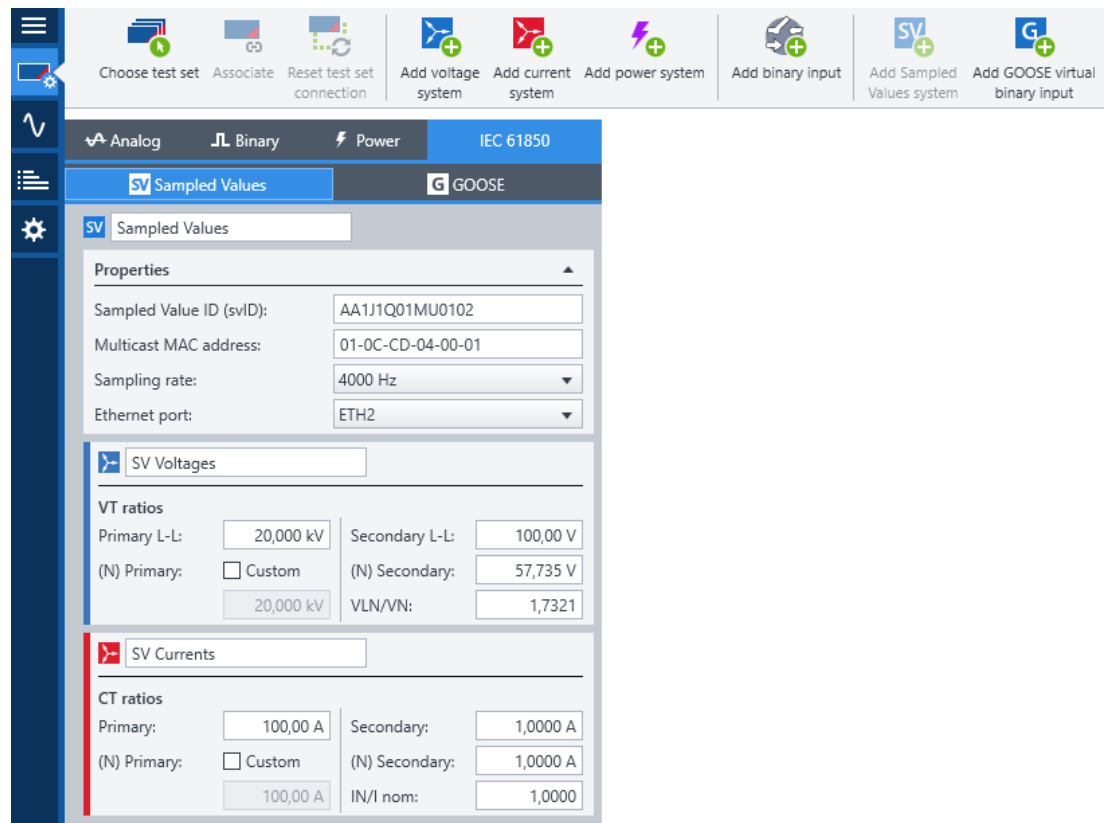

Figure 14: Test set configuration for Sampled Values measurement streams.
- c. Configuration of IEC 61850 Sampled Values measurement streams, as exemplarily shown in Figure 14: